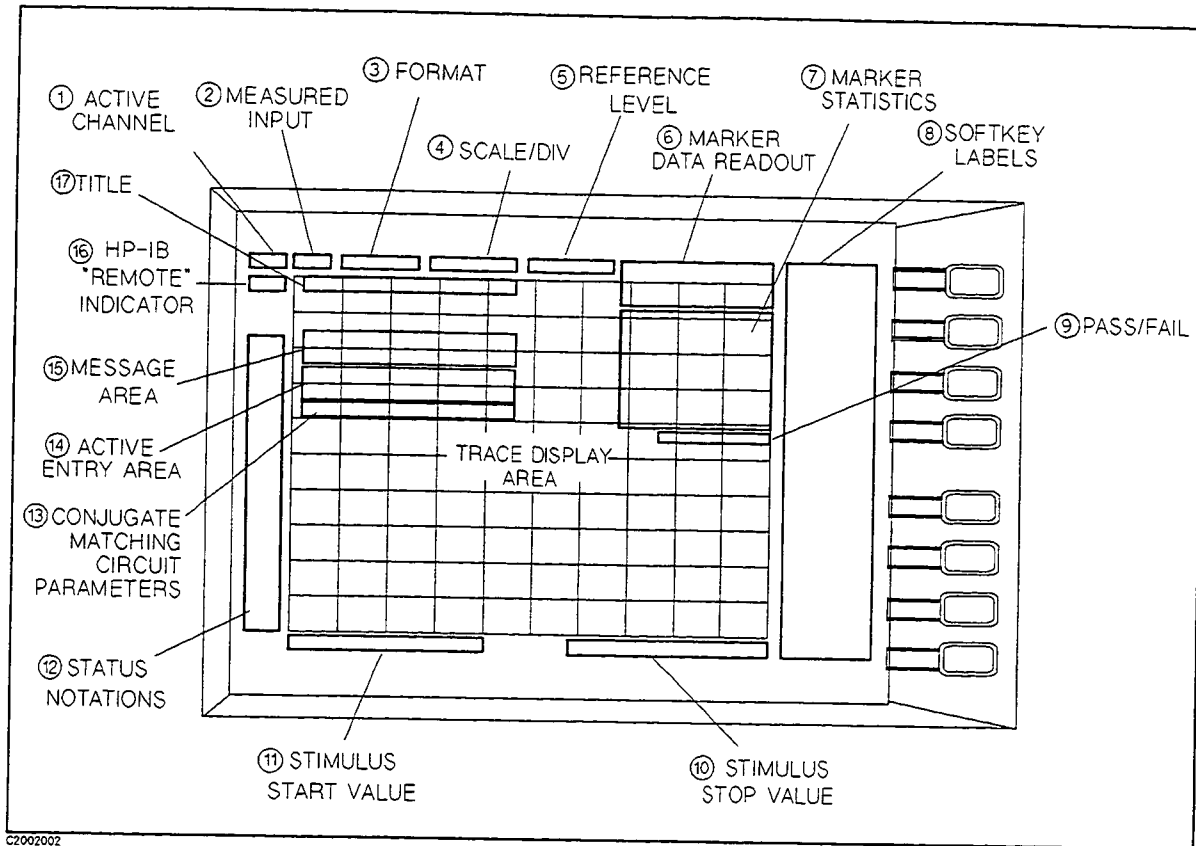

Figure 2-2. CRT Display (Single Channel, Cartesian Format)
2. **CRT display.** This is used for display of data traces, measurement annotation, softkey labels, and other information. The display is divided into specific information areas, illustrated in Figure 2-2.
The CRT displays the grid on which the measurement data is plotted, the currently selected measurement traces, and other information describing the measurement. Figure 2-2 illustrates the locations of the different CRT information labels, described below.
In addition to the full-screen display shown in Figure 2-2, a split display is available, as described under “**DISPLAY** KEY” in Chapter 6. In this case, information labels are provided for each half of the display.